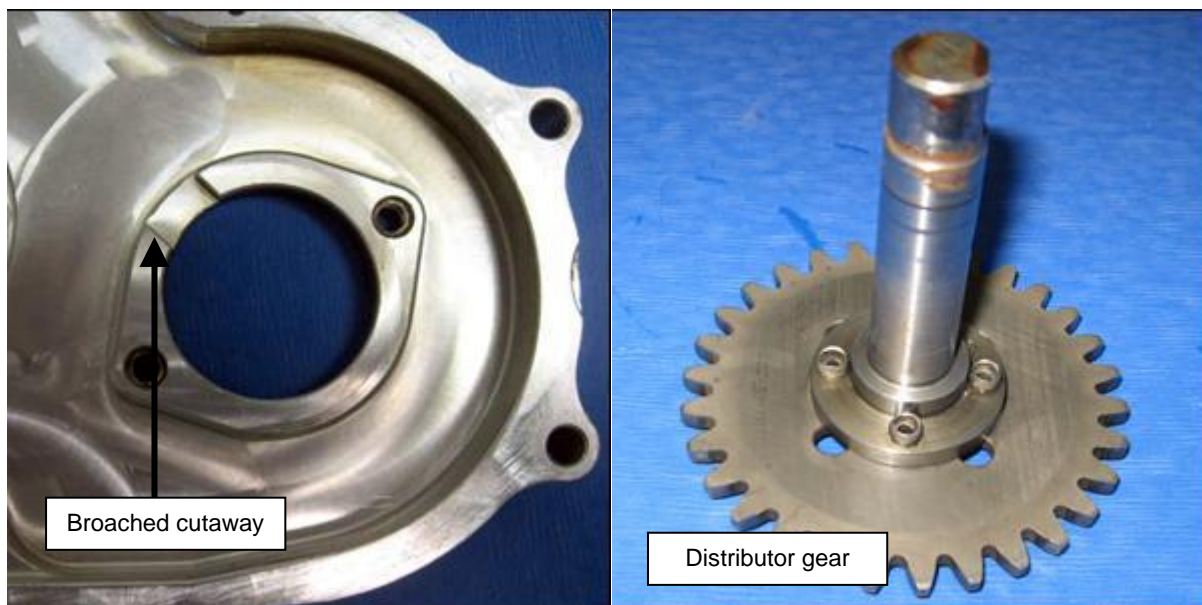

Figure 112 – Distributor Gears & Case
- If deep score marks (from the seal) are present (as shown in Figure 112 – right) the shaft must be replaced.